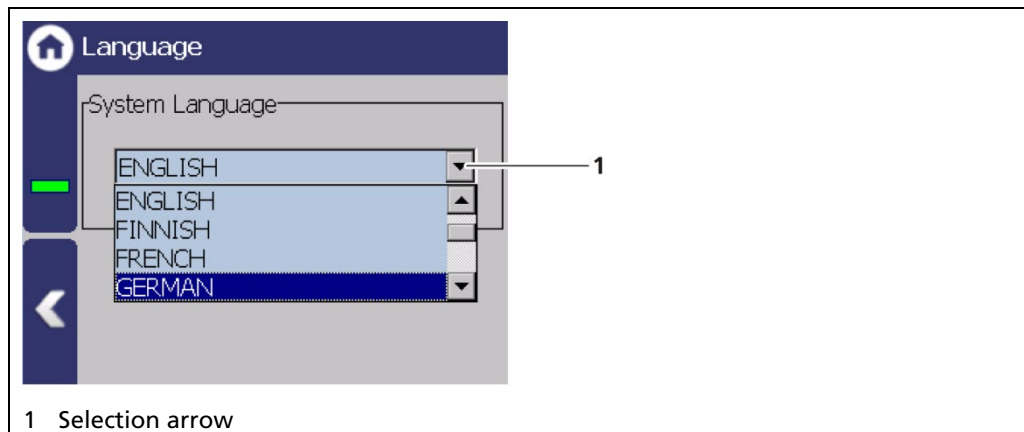

Fig. 45 Language
1. Click on the selection arrow (Fig. 45, item 1) and select a language.